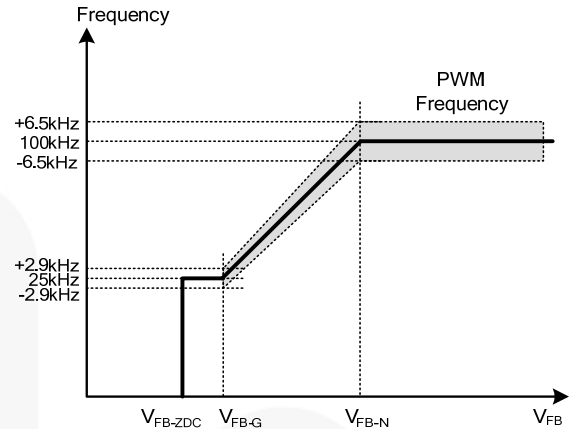
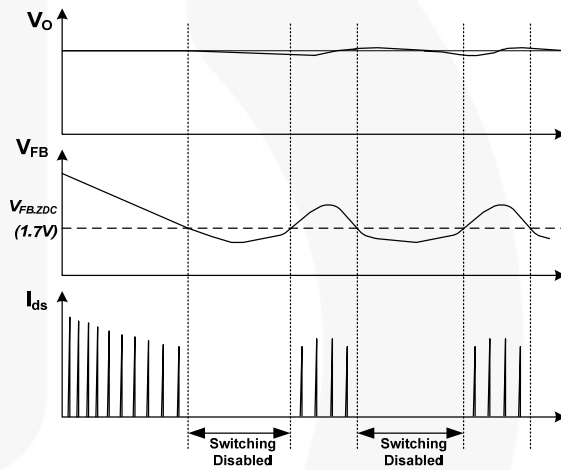

Figure 23. PWM Frequency
Figure 24. Burst-Mode Operation
The FAN6862H(HR) uses feedback voltage ( $V_{FB}$ ) as an indicator of the output load and modulates the PWM frequency, as shown in Figure 23, such that the switching frequency decreases as load decreases. In heavy-load conditions, the switching frequency is 65kHz. Once  $V_{FB}$  decreases below  $V_{FB-N}$  (2.6V), the PWM frequency starts to linearly decrease from 100kHz to 25kHz to reduce the switching losses. As  $V_{FB}$  decreases below  $V_{FB-G}$  (2.1V), the switching frequency is fixed at 25kHz and FAN6862H(HR) enters “deep” Green Mode, where the operating current decreases to 2.5mA (maximum), further reducing the standby power consumption. As  $V_{FB}$  decreases below  $V_{FB-ZDC}$  (1.7V), FAN6862H(HR) enters Burst Mode. When  $V_{FB}$  drops below  $V_{FB-ZDC}$ , FAN6862H(HR) stops switching and the output voltage starts to drop, which causes the feedback voltage to rise. Once  $V_{FB}$  rises above  $V_{FB-ZDC}$ , switching resumes. Burst Mode alternately enables and disables switching, reducing switching loss in standby mode, as shown in Figure 24.